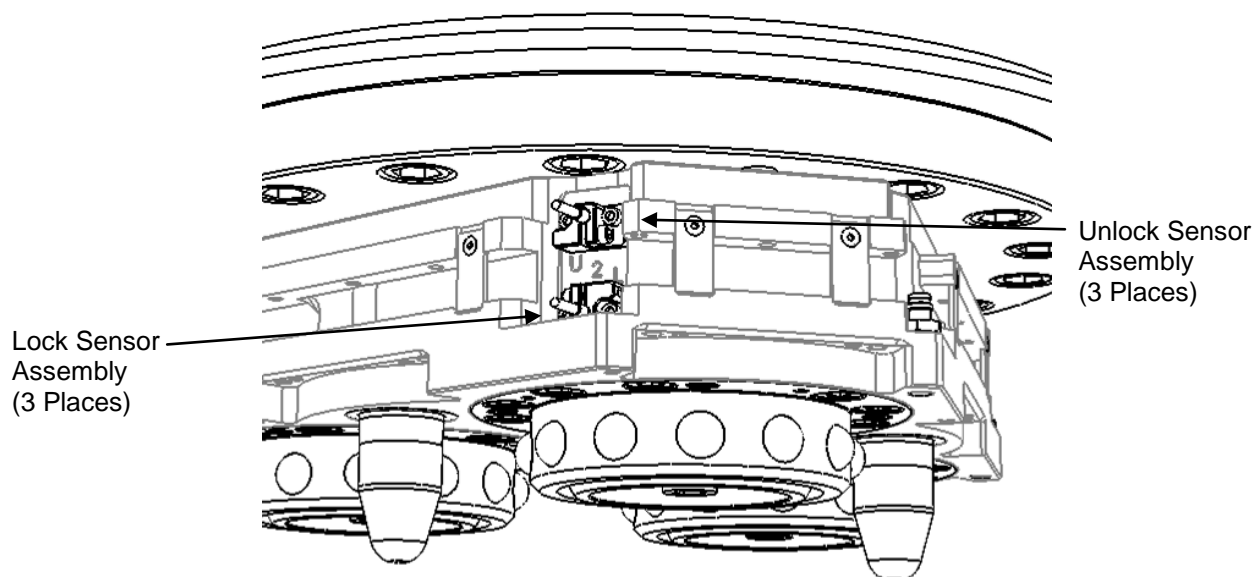

Figure 4.5—QC-1210 Lock and Unlock Sensor Assemblies
4.2.3 Lock and Unlock Sensor Assembly Replacement. Figure 4.5